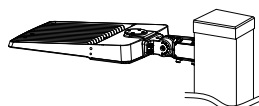

Figure 3-1-3
Step3: Fasten the pole cover to the pole after making sure the wires are connected correctly, Figure 3-1-3;